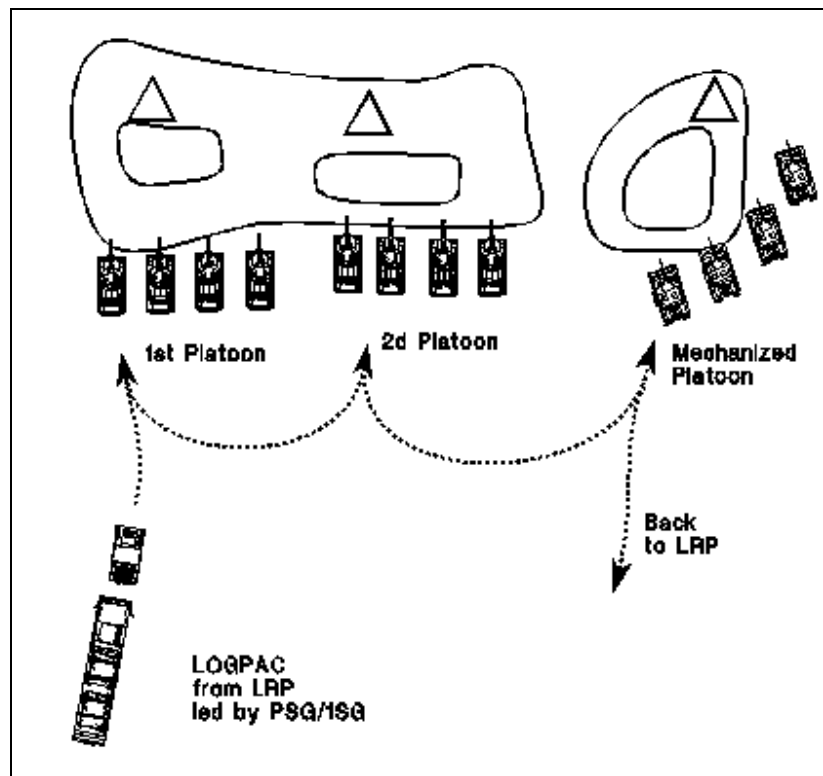

Figure 5-1. Tailgate resupply technique.
- *Tailgate Resupply.* In the tailgate technique, fuel and ammunition are brought to individual tanks by the tank leader or another responsible individual who is assisting him (see Figure 5-1). This method is used when routes leading to vehicle positions are available and the unit is not under direct enemy observation and fire. It is time-consuming, but it is useful in maintaining stealth during defensive missions because tanks do not have to move.